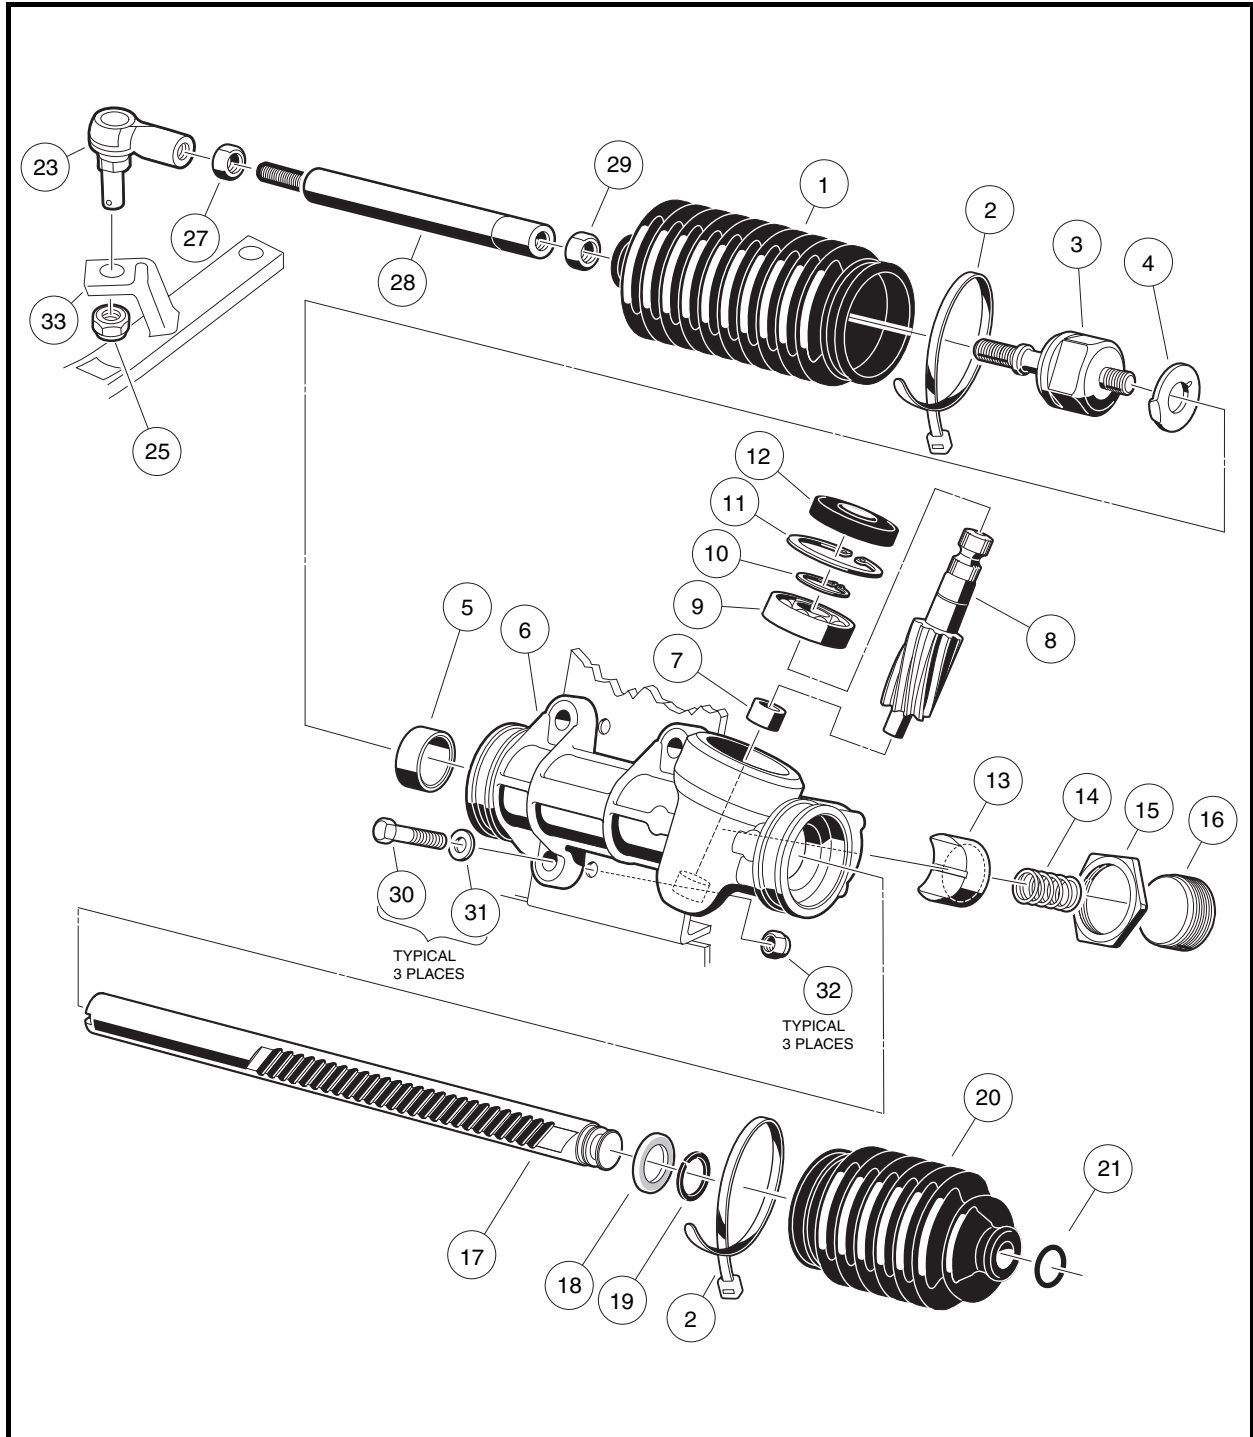
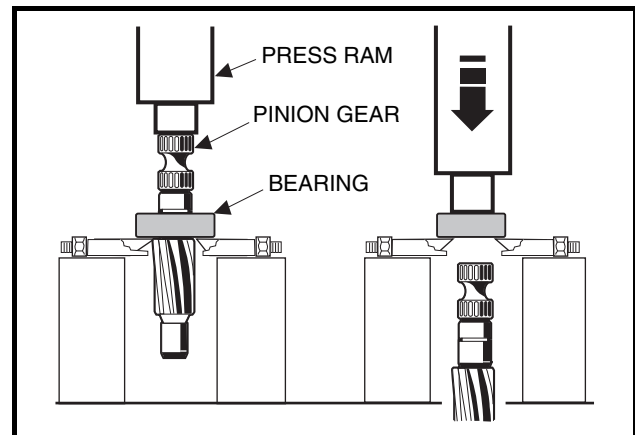
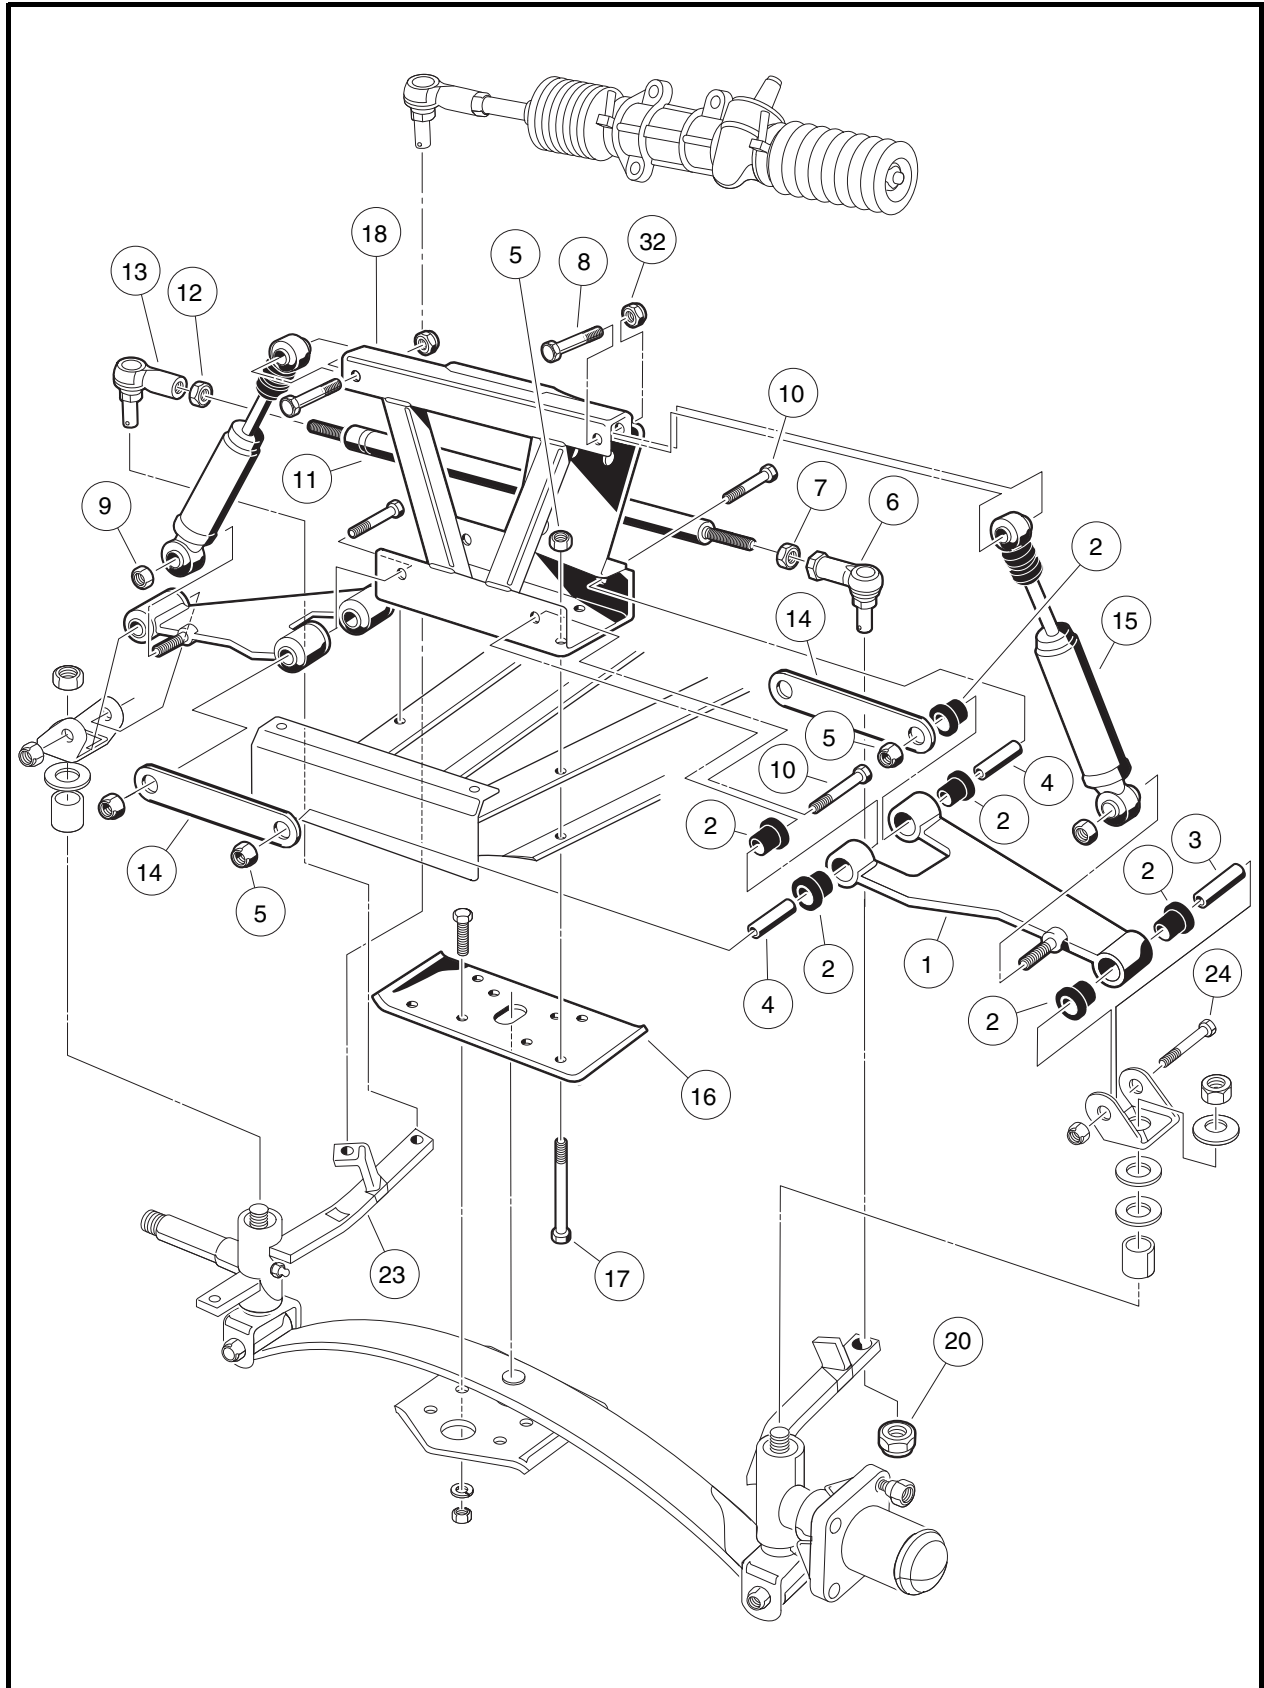
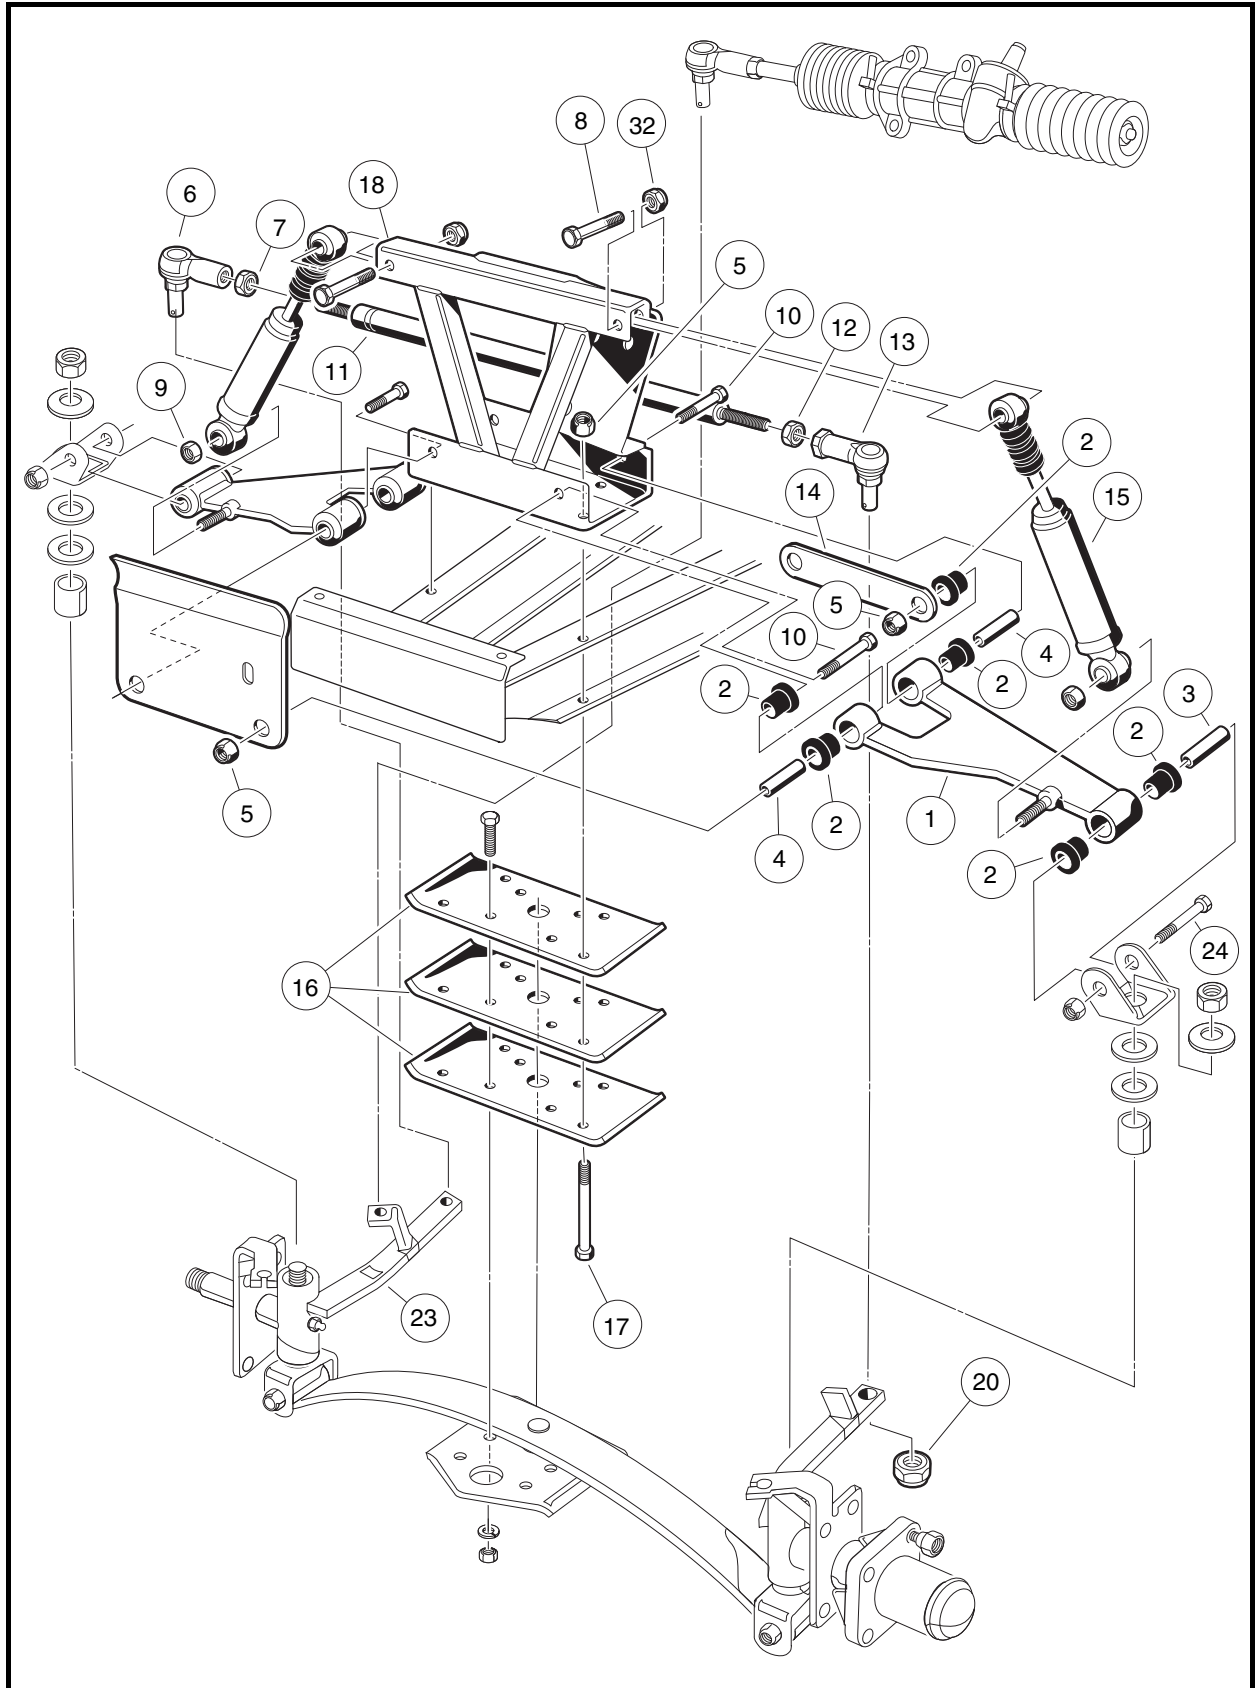

Figure 7-8 Steering Gear
Figure 7-10 Remove Bearing from Pinion
Figure 7-20 Two-Wheel Brake Vehicle – Upper Portion
Figure 7-22 Four-Wheel Brake Vehicle – Upper Portion
2. Loosen the nuts (27 and 29) and turn the drag link (28) (**Figure 7-8, Page 7-9**) to adjust the drag link rod. Adjust the link rod with the steering wheel turned all the way to the right, so the passenger side spindle stop lightly touches the passenger side A-plate. The internal stop on the rack must reach its limit of travel at the same time the spindle stops against the passenger side A-plate (with vehicle wheels turned to the right). **See following CAUTION.**
3. When all adjustments have been completed, tighten the nuts (27 and 29) on the drag link assembly with an open end wrench. Tighten nuts to 21 ft-lb (28.4 N·m) (**Figure 7-8, Page 7-9**). **See following CAUTION.**
- **When tightening the nuts (27 and 29), make sure the drag link (28) does not turn (Figure 7-8, Page 7-9).**
- ball joint (23) (**Figure 7-8, Page 7-9**) and (6 and 13) (**Figure 7-20, Page 7-19 or Figure 7-22, Page 7-21**)
- rack assembly (17) (**Figure 7-8, Page 7-9**)
2. Remove ball joint retaining nut (25) and remove ball joint (23) from spindle (33) (**Figure 7-8, Page 7-9**).
3. Remove the bolts (30), washers (31), and lock nuts (32) from the steering rack assembly mounting bracket (**Figure 7-8, Page 7-9**).
- The ball joint (23) (Figure 7-8, Page 7-9) has left-hand threads.
2. Remove the drag link (28) (Figure 7-8, Page 7-9).
3. Remove both bellows clamps (2) (plastic wire ties).
4. Remove the hex nut (29) and slide off the dust seal bellows (1).
5. Remove the retaining ring (21), then slide off dust seal bellows (20).
6. Remove the rack screw lock nut (15), rack guide screw (16), rack guide pressure spring (14), and the rack guide (13) (Figure 7-8, Page 7-9).
7. Remove the universal joint assembly from the pinion (8) by fully removing the bolt and then sliding off the universal joint.
9. Use snap ring pliers to remove the internal snap ring (11) (Figure 7-8, Page 7-9).
11. If the ball bearing (9) has been damaged, remove the external snap ring (10) (Figure 7-8, Page 7-9) and press the bearing off (Figure 7-10, Page 7-10).
12. Remove retaining ring (19) and stop washer (18), then remove rack (17) from housing (6) (Figure 7-8, Page 7-9).
14. Inspect the bushing (5) for excessive wear. If wear is excessive, replace the steering box assembly (CC P/N 101878302) (**Figure 7-8, Page 7-9**).
3. Apply a light coating of EP grease to the teeth of the rack (17), then slide the rack through the bushing (5) and housing (6). Install the stop washer (18) and retaining ring (19) to the end of the rack (**Figure 7-8, Page 7-9**).
4. If the bearing (9) was removed, press on a new bearing, exerting all pressure on the inner race (grease the bearing before installing it). Then install the external snap ring (10) (**Figure 7-8, Page 7-9**). **See preceding CAUTION.**
5. If the needle bearing (7) is damaged, the steering box assembly (CC P/N 101878302) must be replaced (**Figure 7-8, Page 7-9**).
6. Install pinion (8) and bearing (9) assembly into the housing (6) (**Figure 7-8, Page 7-9**). Make sure the rack gear teeth will mesh with the gear teeth on the pinion. The rack may need to be rotated slightly while lightly tapping on the pinion-bearing assembly with a rubber mallet. **See following CAUTION.**
7. Install the internal snap ring (11) (Figure 7-8, Page 7-9).
9. Apply a small amount of grease to the rack guide (13) where it comes into contact with the rack (17) (Figure 7-8, Page 7-9).
10. Place a few drops of Loctite[®] 222 to the threads of the screw (16) (Figure 7-8, Page 7-9).
11. Install the rack guide (13), pressure spring (14), and screw (16). The screw should be threaded in until a rotational torque of 10 in-lb (1.13 N·m) is achieved (Figure 7-8, Page 7-9).
12. Install the dust seal bellows (20) and retaining ring (21) (**Figure 7-8, Page 7-9**).
13. Install the dust seal bellows (1) and hex nut (29) (**Figure 7-8, Page 7-9**).
15. Install new bellows clamps (wire ties) (2) (**Figure 7-8, Page 7-9**).
16. Install the drag link (28) by fully threading the ground end into the inner ball joint (3). **See following CAUTION.**